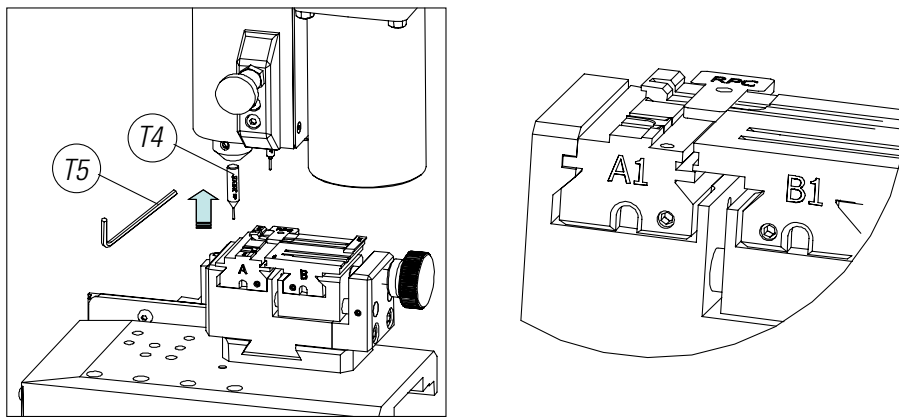

FIG. 17
- 3) Position the RPC adjustment plate in the clamp, from the back side of the clamp (Fig.17).